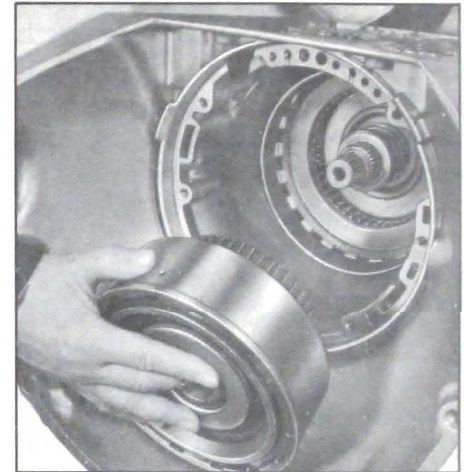

Figure 5-542
9. Remove the direct clutch assembly. See Figure 5-542.